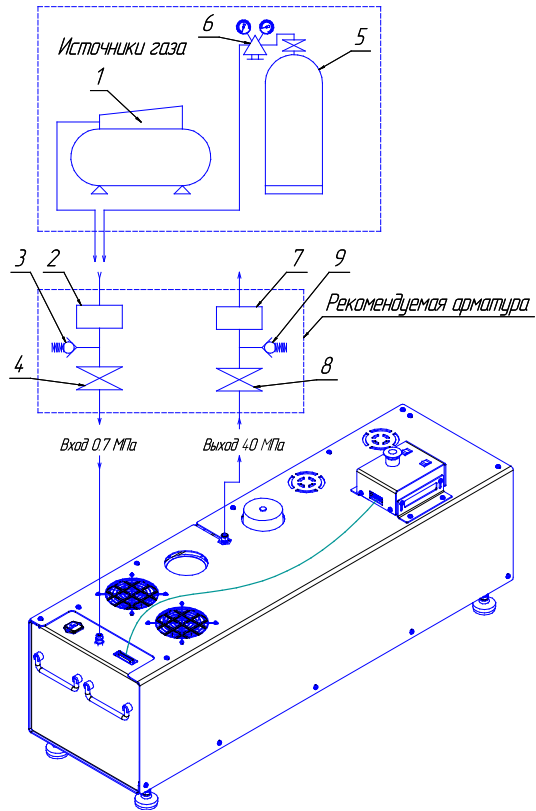

Рис. 3.
6.4 The pneumatic connection (Fig. 3) shall be made only using compressor 1 with a constant outlet pressure of 0.7 MPa or lower.